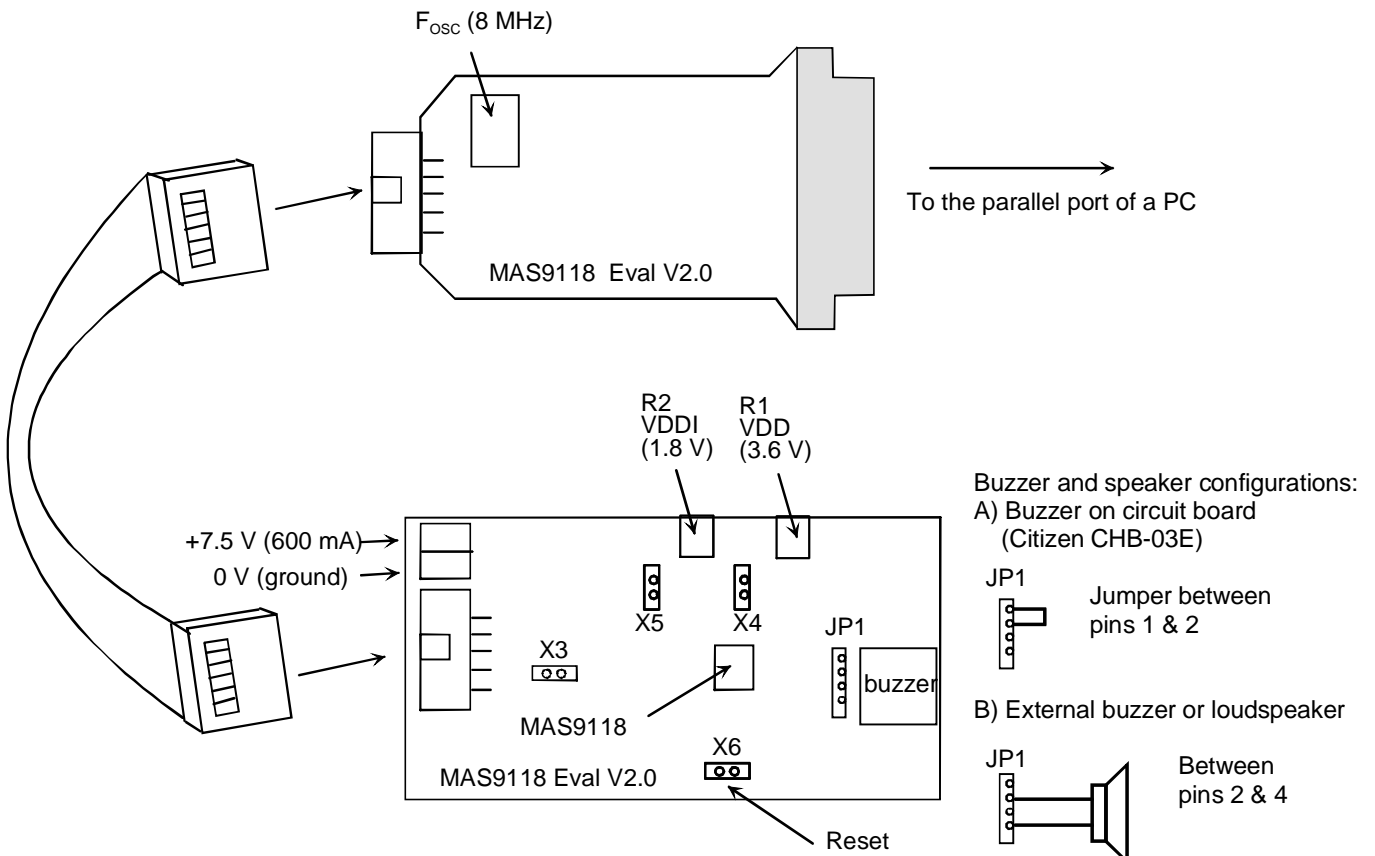

Figure 1.
- 4 Connect buzzer or loudspeaker to the JP1 of the buzzer board, see figure 1
The PCB including buzzer (buzzer board) adjusts supply and signal voltages of MAS9118. It has five jumpers, see figure 1.